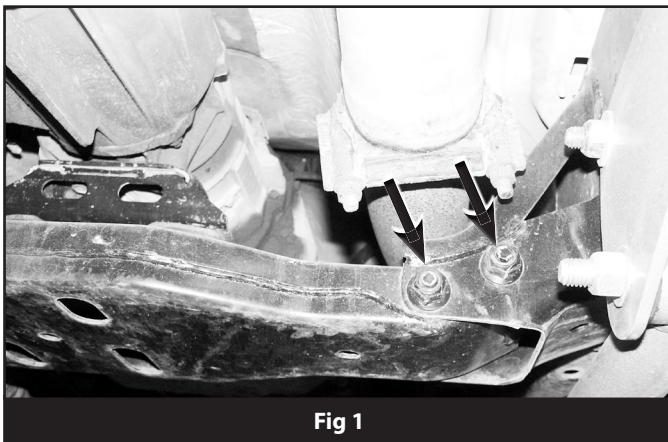

Fig 1
4. Remove the four bolts (two on a side) mounting the transmission crossmember to the frame rails. (Figure 1)